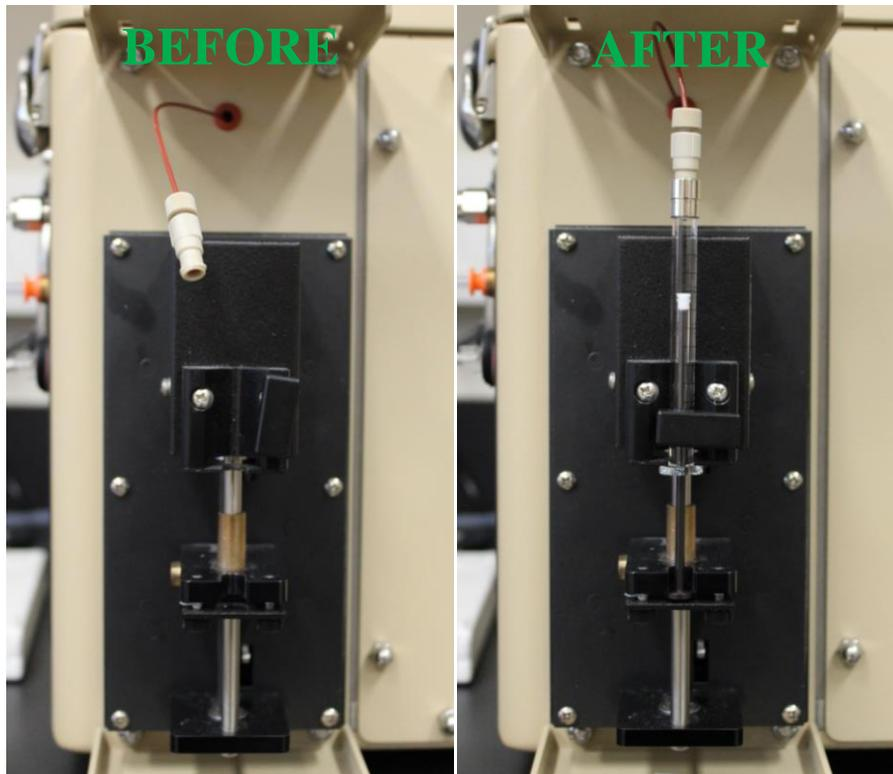

Figure 1.5 – Syringe attachment to solvent transfer line
8. Attach the syringe to the solvent transfer line and place it in the Harvard pump (Figure 1.5).